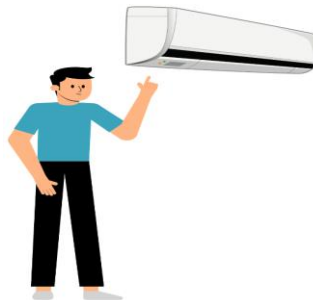

Fig. 1.44 Power switch on the indoor unit
Step 2. Locate the power switch on the indoor unit and turn it on. Look for a light or display to confirm that the unit is powered on. Figure 1.44 illustrates pressing the power switch to turn on the AC.